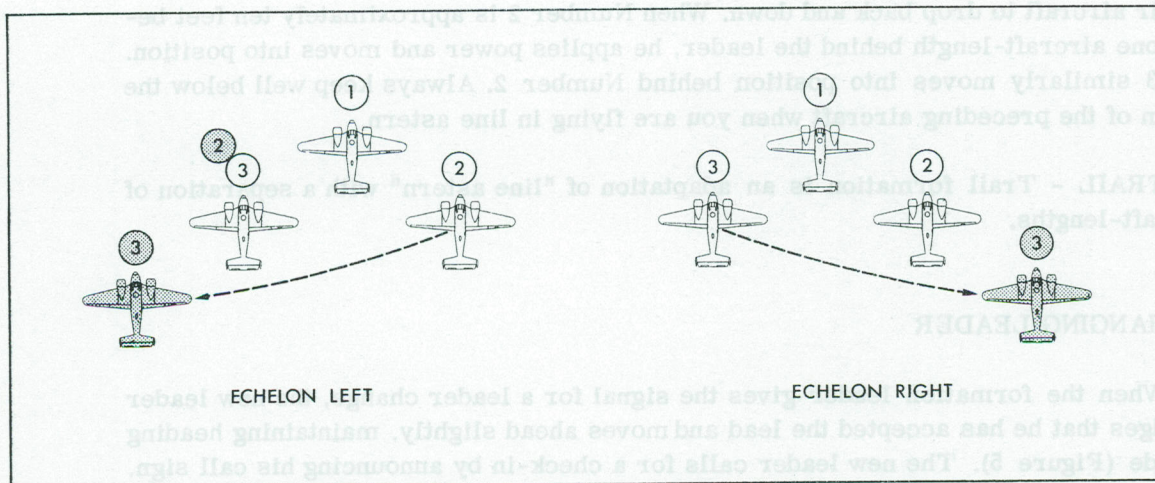

Figure 3. Forming Echelon
(1) ECHELON - When the formation leader wishes to form either echelon right or echelon left from a three-plane "VIC" formation, the numerical integrity of the formation must be maintained during and after the change-over (ie, Number 2 continues to formate on Number 1). When the signal is given to form echelon right, Number 3 drops back and down, and then moves over to formate on Number 2, as shown in the diagram (Figure 3). When the leader calls for echelon left, Number 3 maintains position while Number 2 drops back and down, and then moves over to formate on Number 3. Once all the aircraft have taken up their new positions and are flying as a compact formation, the leader will ask the formation to renumber.